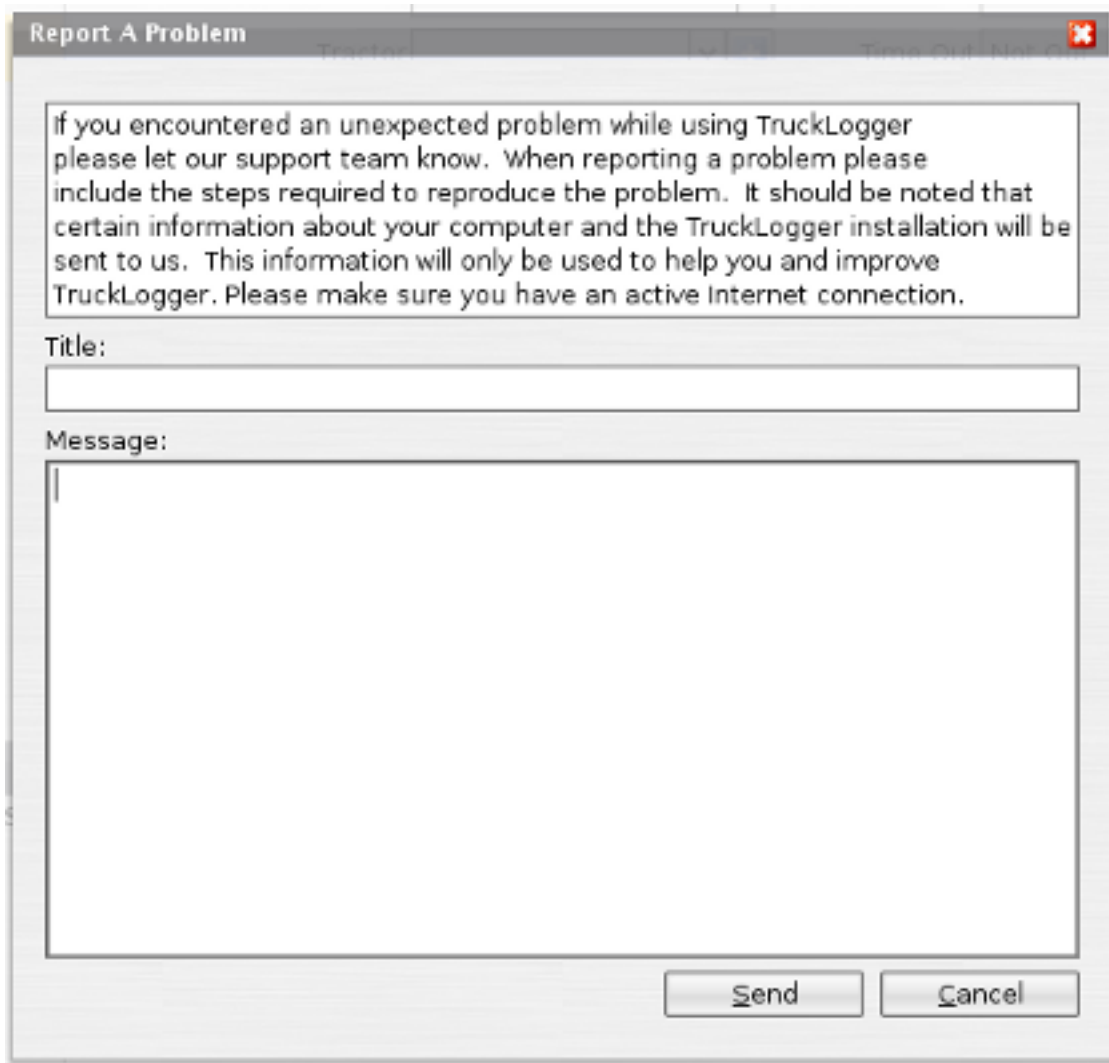

Figure 3.6. Bug Report Dialog
1. Click the Help → Report a Problem menu item and wait for the bug report dialog to appear, see Figure 3.6, “Bug Report Dialog”.